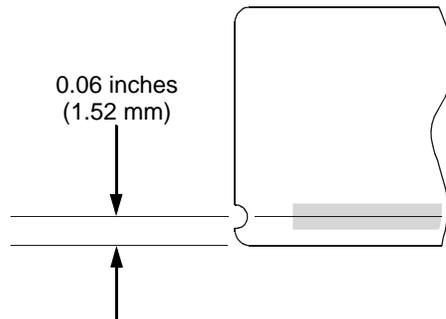

Figure 15. Adjusting the Center of the Scanning Beam
**NOTE:** If the printer does not have a tear bar with notches at the ends, adjust the scanning beam so that the center of the beam is approximately 0.06 inches (1.52 mm) from the lower edge as shown in Figure 15.